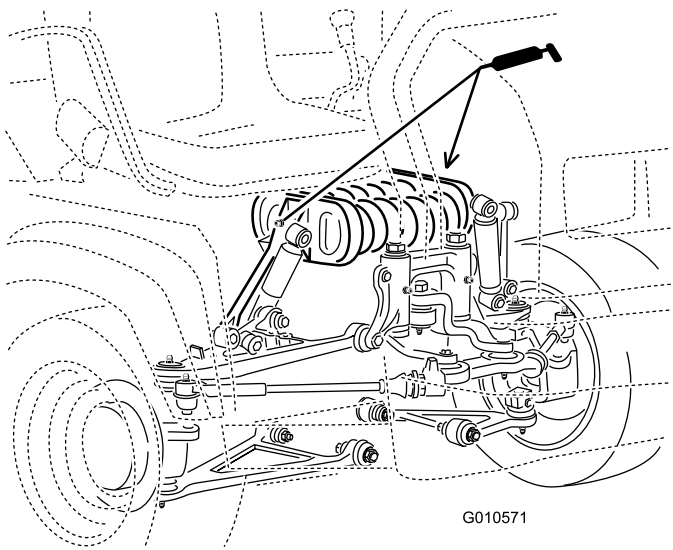

Figure 29
- **Spring tower (2);** refer to Figure 29